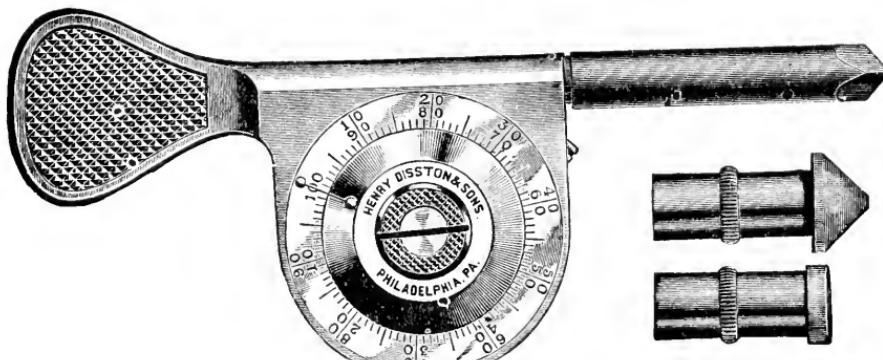

FIG. 86 - SPEED INDICATOR
2. Measure the drive and driven pulleys on the saw table and find the R. P. M. of the saw arbor? What is the surface speed each for a 10" and a 12" saw when run at this speed? In using speed indicator, Fig. 86, what do you find to be the R. P. M. of the saw arbor?